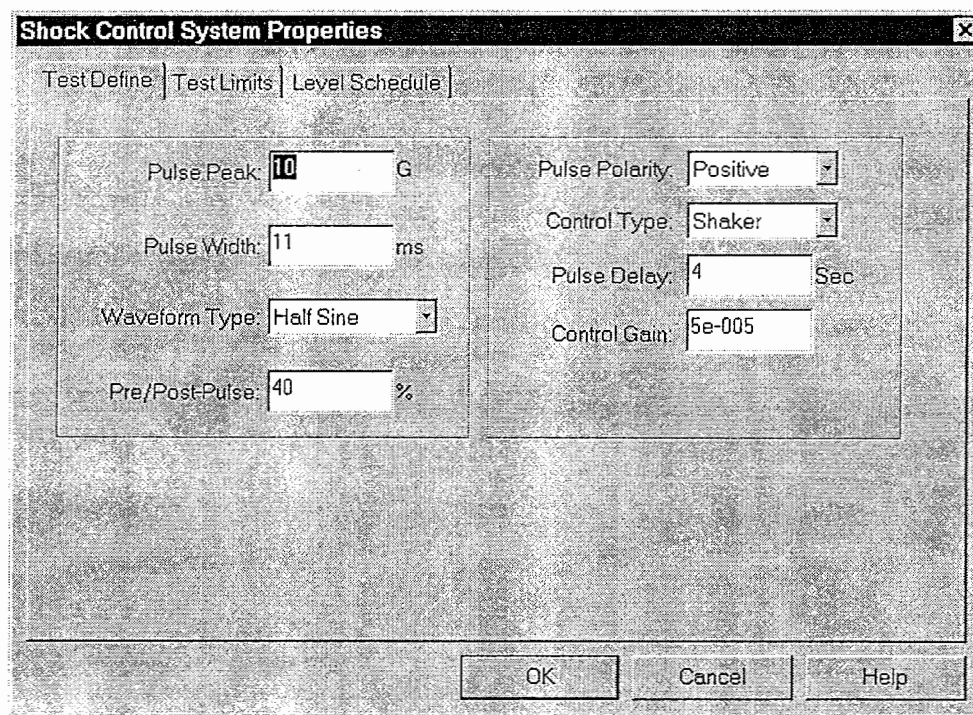

Figure 5-5. Shock Control System Properties Window.
2. Select the **New Test** button () to open the Shock Control System Properties window. See Figure 5-5.